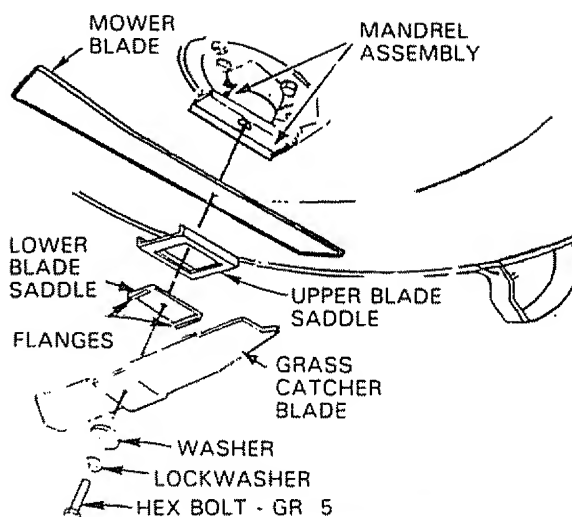

FIGURE 3
8. Mount grass catcher blades, lower blade saddles, upper blade saddles and mower blades to mandrel assemblies (Fig. 3) using: two 3/8 - 24 x 1 - 3/4 hex bolts gr.5, two lockwashers and two washers (shown full size below). Grass catcher blades, lower blade saddles, upper blade saddles and hardware furnished with grass catcher.
- a. Return mower blade (Fig. 3) to original position against mandrel assembly.
- b. Place upper blade saddle and lower blade saddle (Fig. 3) on mower blade. NOTE: Position flanges as shown in Fig. 3.
- c. Place grass catcher blade in lower blade saddle. NOTE: Be sure pointed edges of grass catcher blade are facing upward (Fig. 3).
- d. Secure grass catcher blade assembly to mandrel assembly using hex bolt, lockwasher and washer (Fig. 3). Tighten securely. NOTE: Lower blade saddle must be seated inside upper blade saddle (Fig. 3 - Inset). Repeat procedure for other blade.